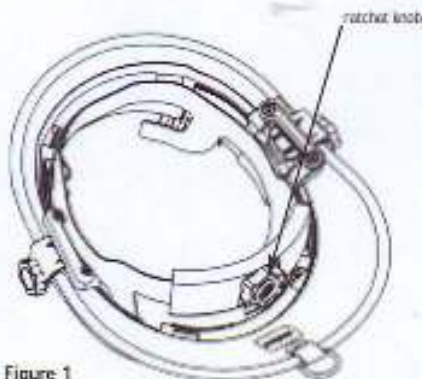

Figure 1
1. Turn the ratchet knob counterclockwise until headband is at largest size (Figure 1).